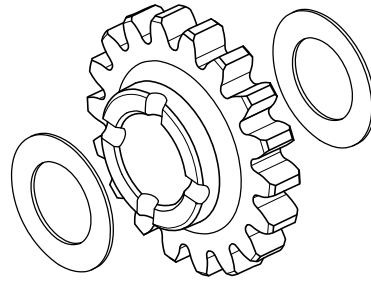

Fig. 3.164
- Take out the idler gear along with shims (11.2x18.5x1 - 2 Nos.). (Fig. 3.164)